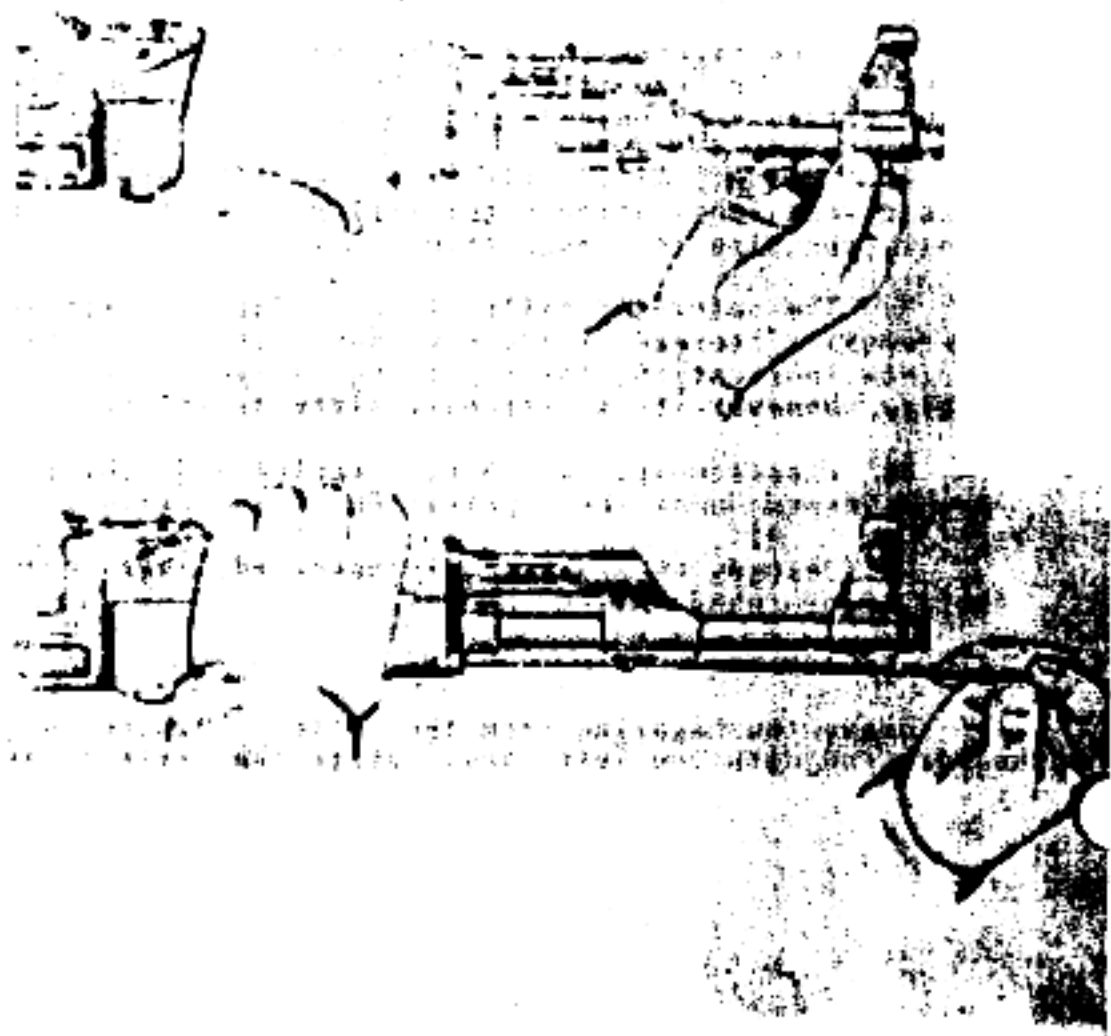

Figure 65. Removing the cleaning rod from the rifle.
5. Remove the cleaning rod from the rifle. Place the stock of the rifle on the ground and hold in this position by means of the hand guard and fore end; take the cleaning rod with the fingers of the right hand and, bending it slightly, remove the cleaning rod head from the stop in the base of the front sight; move the cleaning rod upward so that its head leaves the forward face of the base of the front sight; remove the cleaning rod with the right hand (fig. 65). It is permitted to use a punch to remove the cleaning rod.